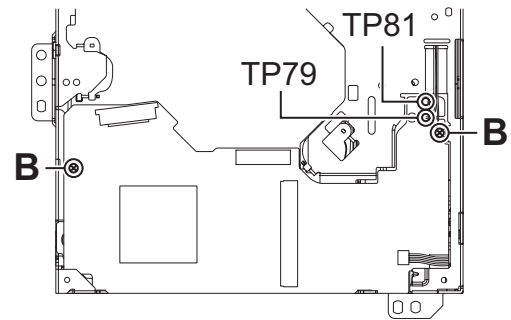

Fig.7
3.2.2 Removing the Front end board (See Fig.7)